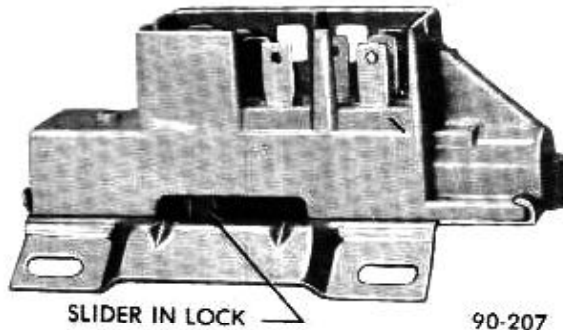

Figure 90-106 - Ignition Switch Slider in "Lock" Position
14. When installing the ignition switch, be sure the lock cylinder is in "Lock" position. Make certain that the switch is in "Lock". Fit actuator rod into switch and assemble to column with two screws. See Figure 90-106.